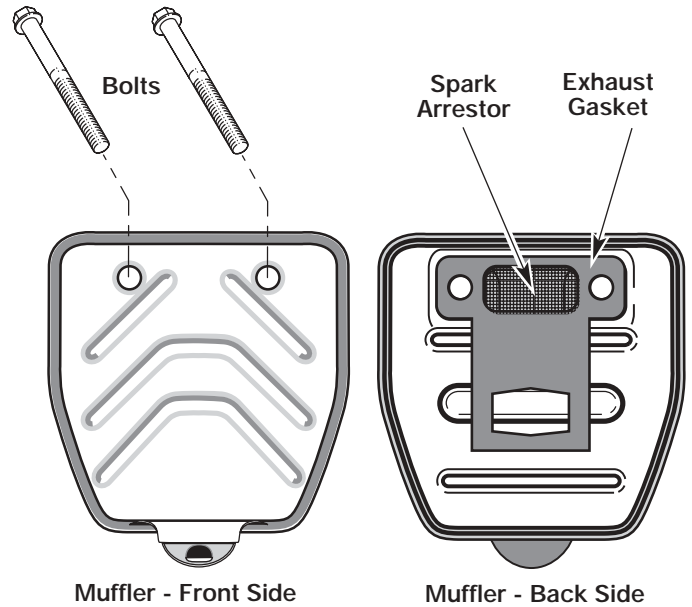

Fig. 38
2. Locate muffler front and the two (2) bolts securing it to the engine (Fig. 38). Remove the two (2) bolts using a flatblade screwdriver or 5/16-inch socket or nut driver. Pull muffler off of the engine.
3. Turn muffler over to the back side and locate the exhaust gasket. Remove the muffler gasket from the muffler (Fig. 38).
7. Place the exhaust gasket against muffler's back side. Align the gasket bolt holes with the bolt holes in the muffler. While holding exhaust gasket in place, insert the bolts into the muffler's front side (Fig. 38).